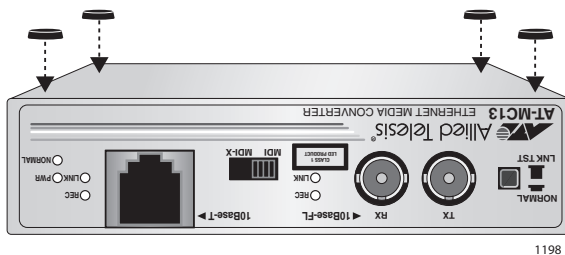

Figure 9. Attaching the Protective Feet
4. Attach the four protective rubber feet to the bottom of the media converter, as shown in Figure 9.